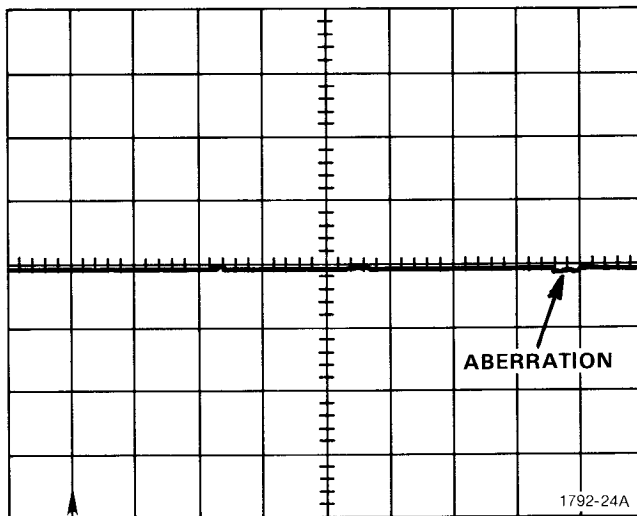

Fig. 4-3. Aberration Check.
25. While viewing the trace, adjust the DISTANCE dial from 000 to 100. The trace aberrations must remain within ± 1 division of the centerline ($\pm 5\%$ peak aberrations for the first 10 feet). See Fig. 4-3.
53. While viewing the trace, adjust the DISTANCE dial from 000 to 050. The trace aberrations must remain within ± 1 division of the centerline ($\pm 5\%$ peak aberrations for first 3 metres.) See Fig. 4-3.